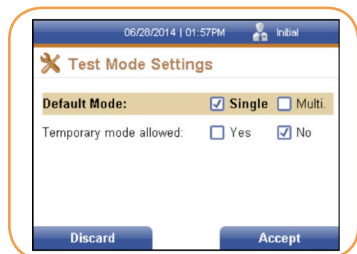

FIGURE 19
2. Press the right soft key to select it. The *Test Mode Settings* screen is displayed (Figure 19).